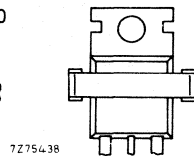

Fig. 2a Position of device (top view).
3. Push down the clip over the device until the long end of the clip snaps into the wide slot in the heatsink. The clip should bear on the plastic body, not on the tab (see Fig.2a).